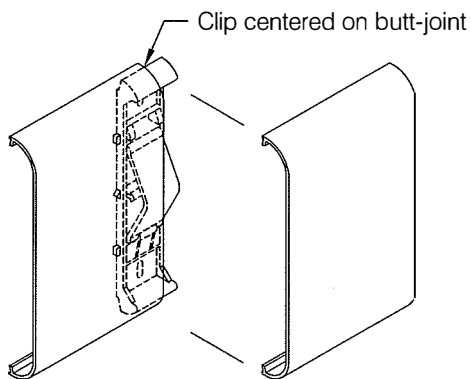

fig 7
- At each WGV-8 cover butt-joint, see **fig 7**
- Step 7:** Measure between accessories and cut the WGV-8 vinyl cover. Miter cut the WGV-8 for all inside corners and special angles not accommodated by the molded accessories. Install a Red-E-Clip® retainer centered at each WGV-8 butt-joint location, see **fig 7**.